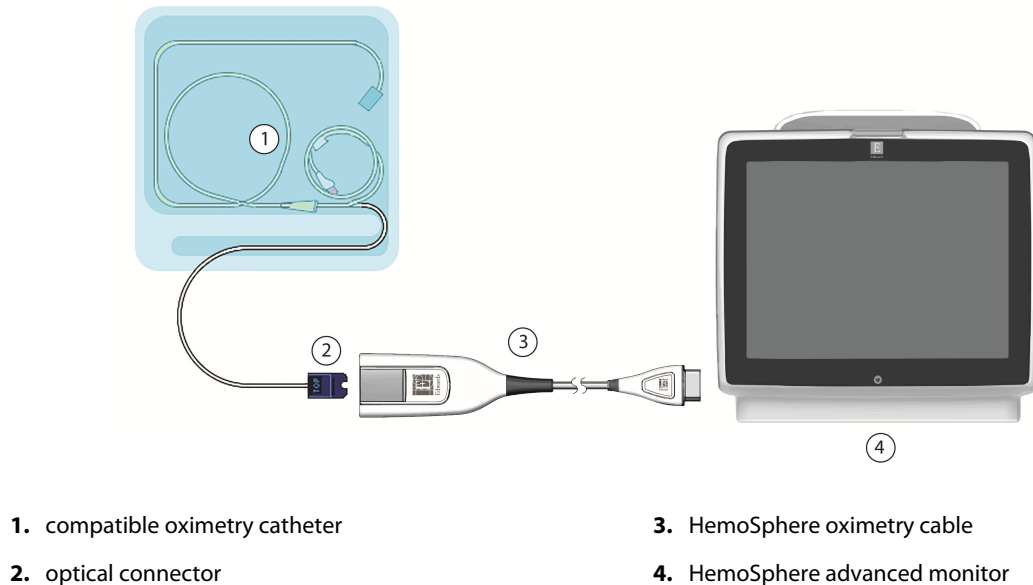

Figure 4-3: Oximetry connection overview
1. Connect the HemoSphere oximetry cable to the left side of the HemoSphere advanced monitor. See Figure 4-3 on page 86.